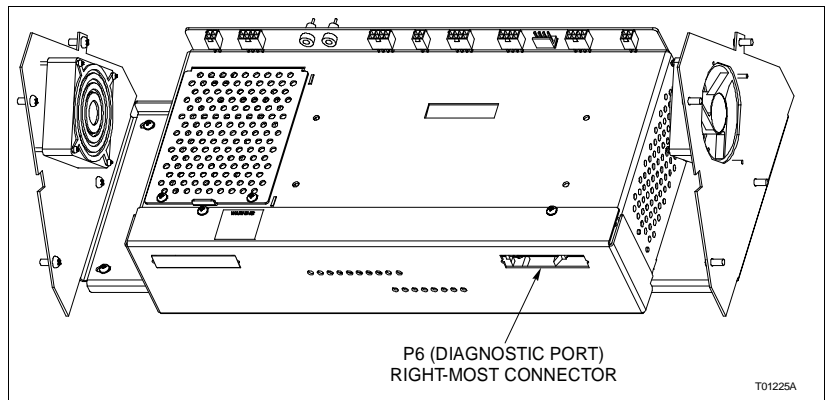

Figure PR47-1. Diagnostics Port P6
- 1. Connect the nine-pin to 25-pin D connector serial cable between the dumb terminal and port P6 on the IIMCP02 module (Fig. PR47-1).